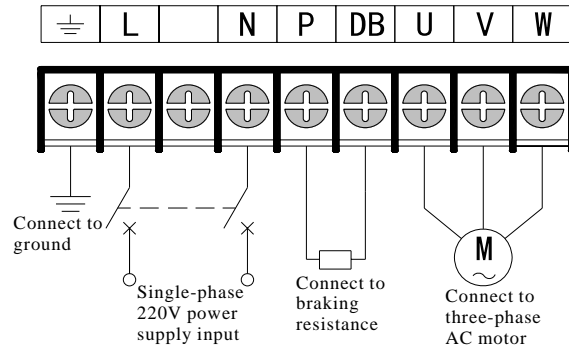

Fig.3-18 Diagram 1 for Main Circuit Terminals
1. The main circuit terminals are shown as in the figure 3-18~3-23.